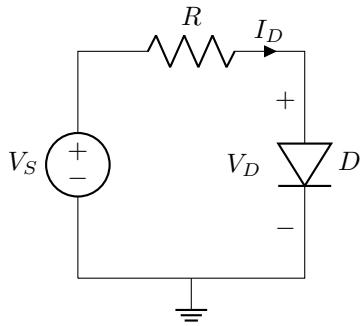

Figure 1: Forward-bias pn junction I–V characteristic measurement circuit.
Begin by constructing the circuit shown in Figure 1 on the breadboard using the small-signal silicon diode and the 1 kΩ resistor. Ensure that the diode is oriented correctly with the anode connected toward the positive supply terminal and the cathode toward ground. Set up the lab instruments to measure the diode voltage  $V_D$  and current  $I_D$ . To measure the voltage, connect the leads of the DMM (Digital Multimeter) across the diode terminals to measure the diode voltage directly. To measure the current, there are two options: connect a second DMM in series with the circuit (being careful to observe the current measurement limits of the meter) or measure the voltage across the resistor and calculate the current using Ohm's law ( $I_D = V_R/R$ ). The second method is often preferred as it avoids potential issues with the meter burden voltage.
2. For the circuit in Figure 1, assume  $V_S = 5 \text{ V}$ ,  $R = 1 \text{ k}\Omega$ , and the diode forward voltage is  $0.7 \text{ V}$  when conducting. Calculate (a) the voltage across the resistor, (b) the current through the diode, and (c) the power dissipated by the diode. Show all calculations.